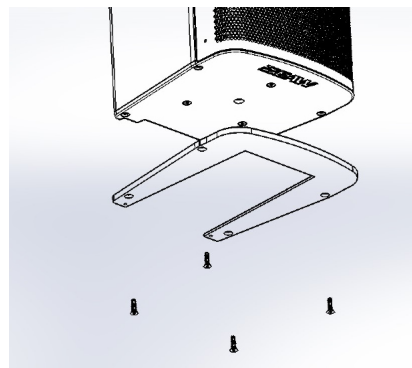

Figure 2 - Install Slide Plate
- Position Slide Plate over open holes, then use screws (B) to secure slide plate to the cabinet (Figure 2))